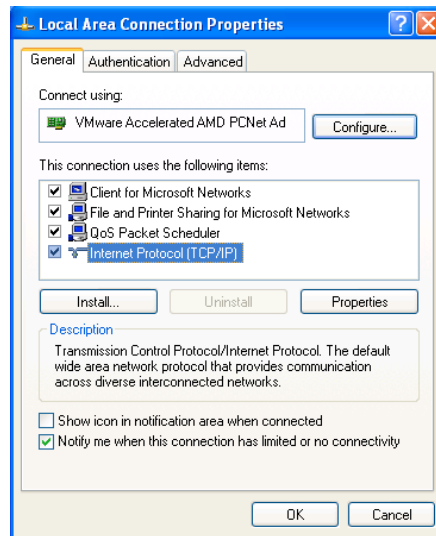

Figure 2.3e—Local Area Connection
Step 3: Right click on the icon labeled Local Area Connection. In the menu that follows, select the option at the bottom of the menu labeled Properties. The Local Area Connection Properties window will appear. Scroll down to and highlight "Internet Protocol (TCP/IP)," then click the button labeled "Properties." (Figure 2.3e)